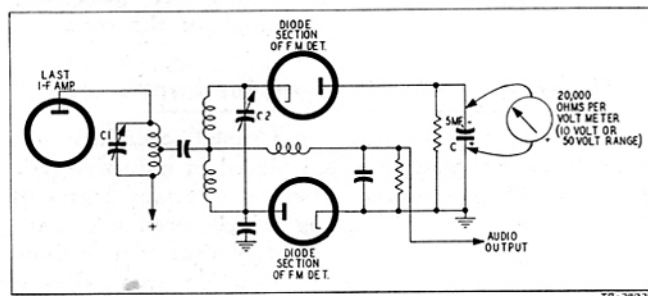

Figure 14. Ratio Detector with D-C Indicator Connected
The ratio detector (fundamental circuit shown in figure 14) employs two diodes in a somewhat different arrangement from those in the limiter-type detector. The high-capacitance condenser C charges to an average d-c potential determined by the amplitude of the i-f signal. The tuning indicator may be a 20,000-ohms-per-volt voltmeter connected as shown in figure 14.
1. Leave the d-c voltmeter connected to the high-capacitance condenser C (see figure 14). Use 10-volt or 50-volt range.
5. Adjust the diode-circuit trimmer (C2 in figure 14) for maximum d-c voltage indication.